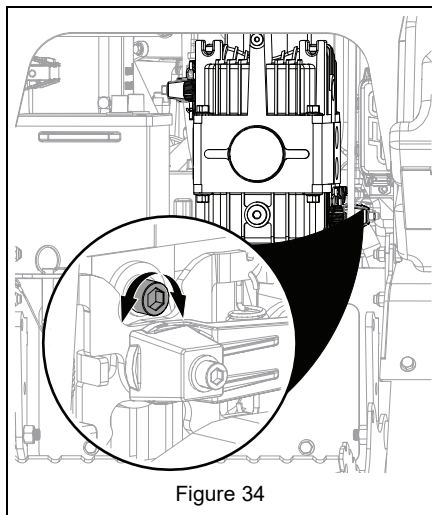

Figure 34
3. Loosen one of the return-to-neutral screws on either side of the pump. See Figure 34.